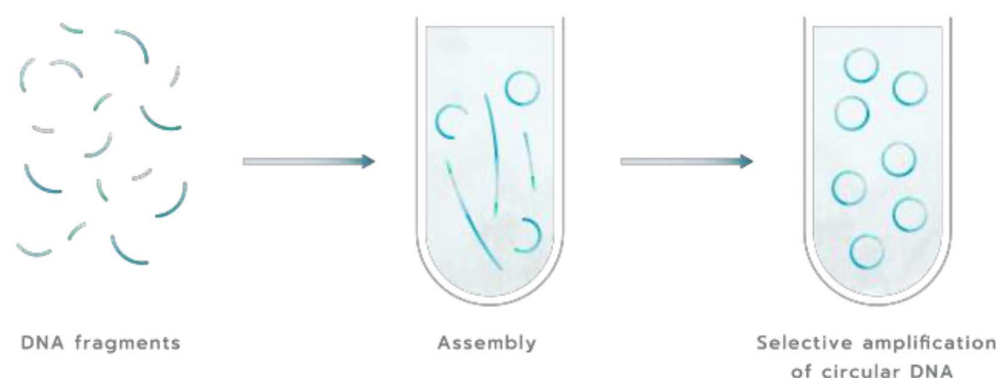

Figure 1. Assembly & Amplification to produce circular DNA
**OriCiro® Cell-Free Cloning System** is a rapid and powerful tool replacing cumbersome DNA cloning (plasmid construction) process relying on *E. coli*. The system consists of two kits. **OriCiro Assembly Kit** allows seamless assembly of multiple overlapping DNA fragments. The assembly product can be added directly to **OriCiro Amp Kit** to get selective amplification of your target circular DNA (*Figure 1*). The amplified product is supercoiled DNA topologically identical to plasmid DNA isolated from *E. coli*.